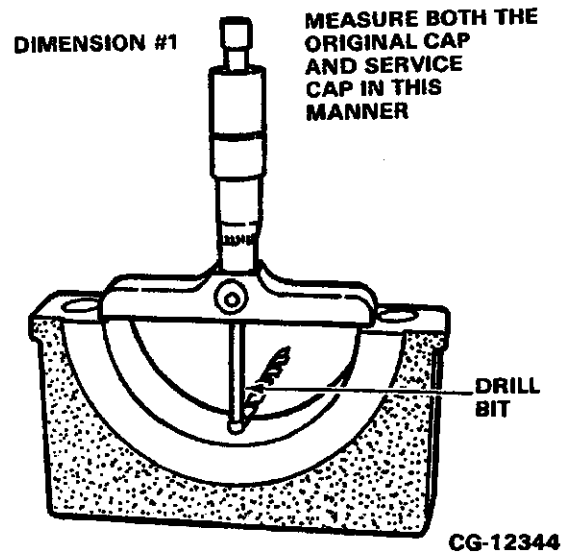

Figure 7.66. Measure Dimension No. 1
- b. Measuring the old cap first, place a drill rod or a new drill of any size from 1/4" to 1/2" (6 to 13 mm) on the cap saddle. Measure the distance from the face of the cap (Figure 7.66) to the drill rod shank with a depth gauge as shown and record the reading.